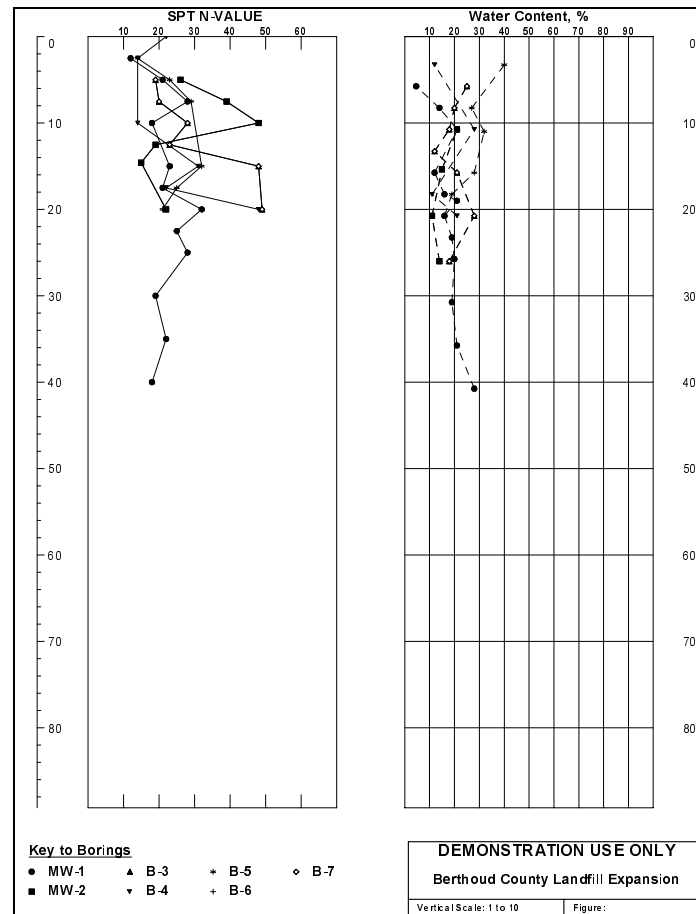

Figure 7.3 -- Multi-Source Graph
- The report shown in Figure 7.3 includes (from left to right): a scale bar, a graph, a blank column, a graph and a scale bar -- this basically covers everything which can be shown on a multi-source report's subsurface table.
3. The **Maximum number of sources to graph per page** box selects how many borings will be plotted on the graph on a single page. If you include more than one graph on your form (like, for example, the report shown in Figure 7.3, which has graphs of N-values and water content), it's critical that you select the same number of sources for each graph that you add.